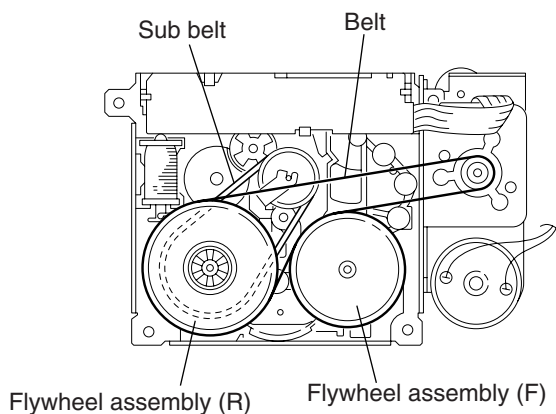

Fig.11
■ Removing the flywheel assembly (F) and (R) (See Fig.11 and 12)
- Prior to performing the following procedure, remove the side bracket (L), (R), cassette hanger assembly / cassette holder.
2. Remove the polywasher from the flywheel (F) and (R) on top of the body.
3. Pull out the flywheel (F) and (R).